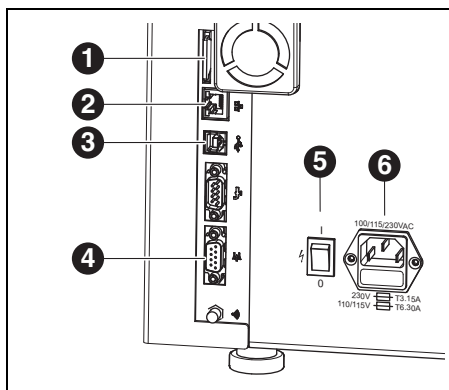

Fig. 4 Interfaces on the rear side of the milling machine
- ▷ Connect a USB cable to the USB interface ([3] in fig. 4) of the milling machine and to a free USB port of the PC.
- ▷ Connect the Ethernet interface ([2] in fig. 4) of the milling machine with the PC or with the network using a network cable.